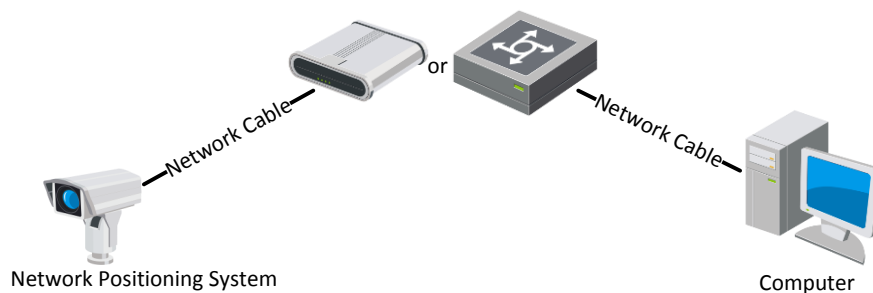

Figure 2-2 Connecting via a Switch or a Router
- Refer to the Figure 2-2 to set the Explosion-Proof PTZ Camera over the LAN via a switch or a router.